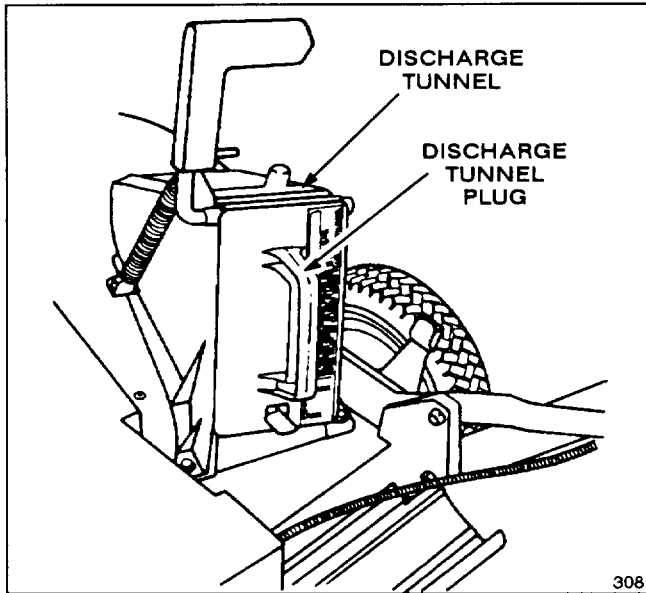

Figure 23
1. Rear Bagging Kit, Model No. 59174—Install discharge tunnel and rear mounting grass bag to convert Recycler® mower to a rear bagging mower (Fig. 23). Includes discharge tunnel plug.